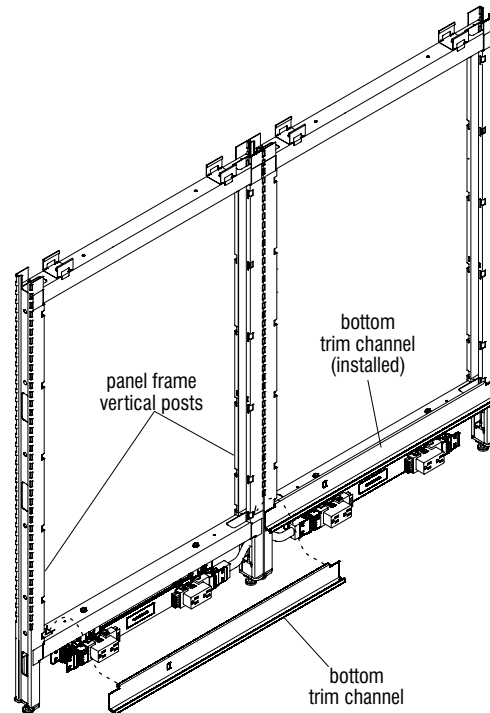

Figure 1 - Bottom Trim Channel Installation
1. At the location of the panel frame where a “standard tile” will rest, install a “bottom trim channel” into the “vertical posts”. Position the bottom trim channel as illustrated. Hook the top lip into the bottom P-slot notches in the vertical posts. Push trim channel down into the slots to secure (Figure 1).